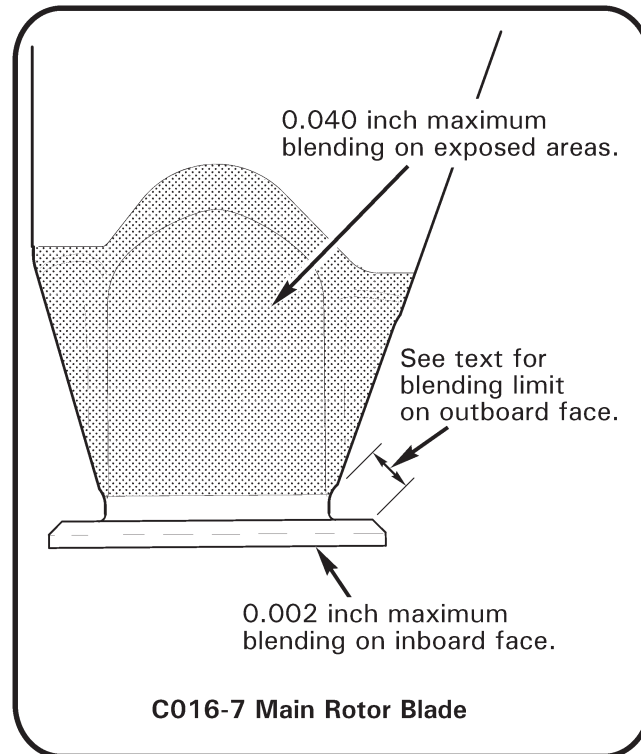

FIGURE 28-15 ROOT FITTING BLEND LIMITS
1. Refer to Figure 28-15. Damage may not exceed the following limits: